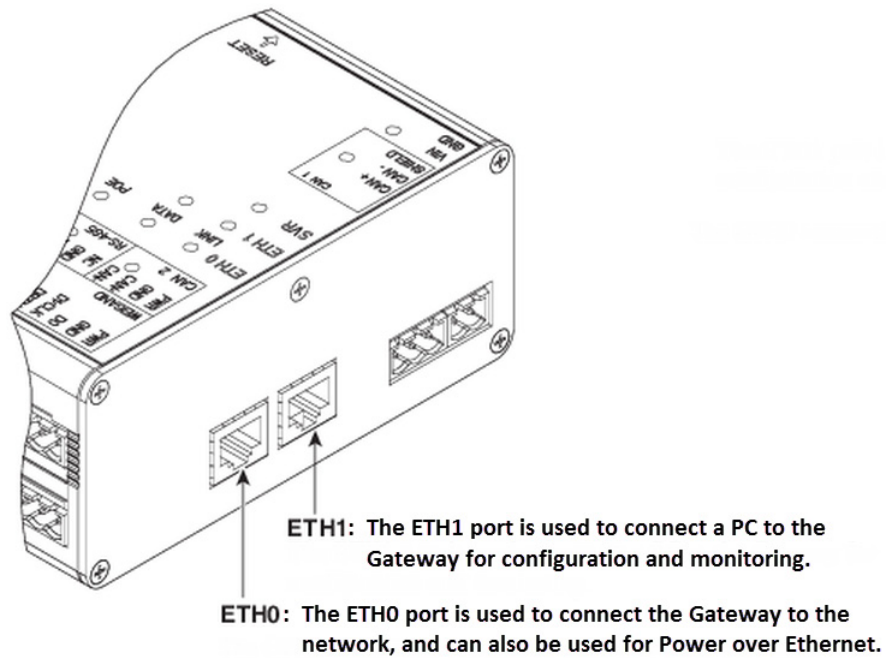

Figure 41: ETH 0 (and ETH1) Ethernet Connections on the Cisco Physical Access Gateway
9. Connect the Gateway to the IP network by connecting an Ethernet cable to the ETH0 port, as shown in Figure 41.
1. Connect an Ethernet cable from a PC to the ETH1 interface on the Gateway module, as shown in Figure 41.